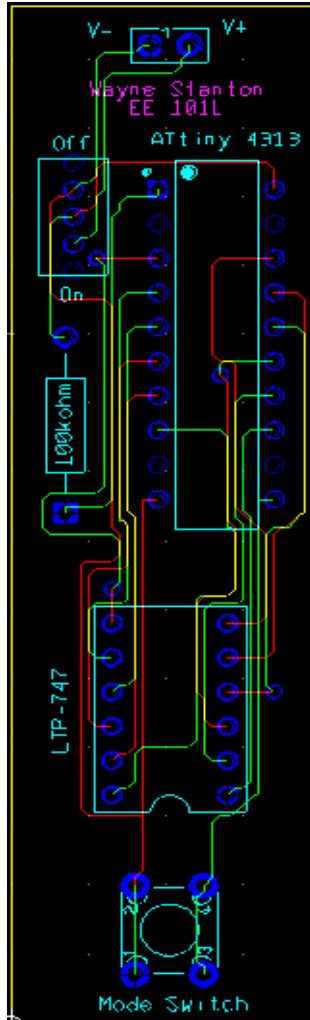

Figure 6: Final Board
- Label the ATtiny 4313, the Mode Switch, the LED Matrix, the On/Off Switch, and the header. See figure 6 as an example.
- To do so, right click the label and go to *Properties* > *Attribute* and select *Invisible*. This ensures that only the relevant/important information that you added is visible (see figure 6).